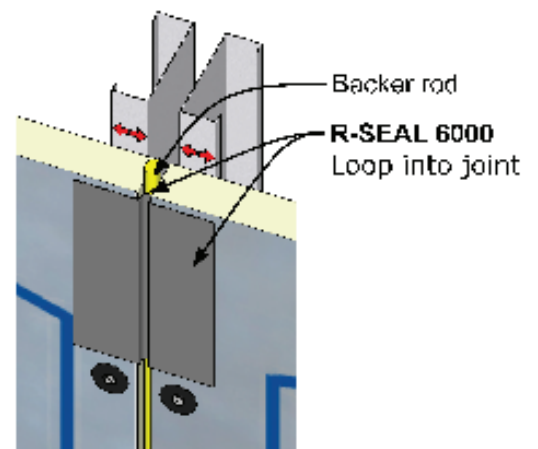

Figure 13
- D. For dynamic joints up to $\frac{3}{4}$ ", R-SEAL 6000 flashing may be used to seal the insulation boards. Install a backer rod and/or bond breaker as required and loop flashing inside the joint to allow for movement. **Reference Figure 13.** The R-SEAL 6000 must extend a minimum of 3" onto each surface. Loop dimensions will vary based on joint performance requirements.